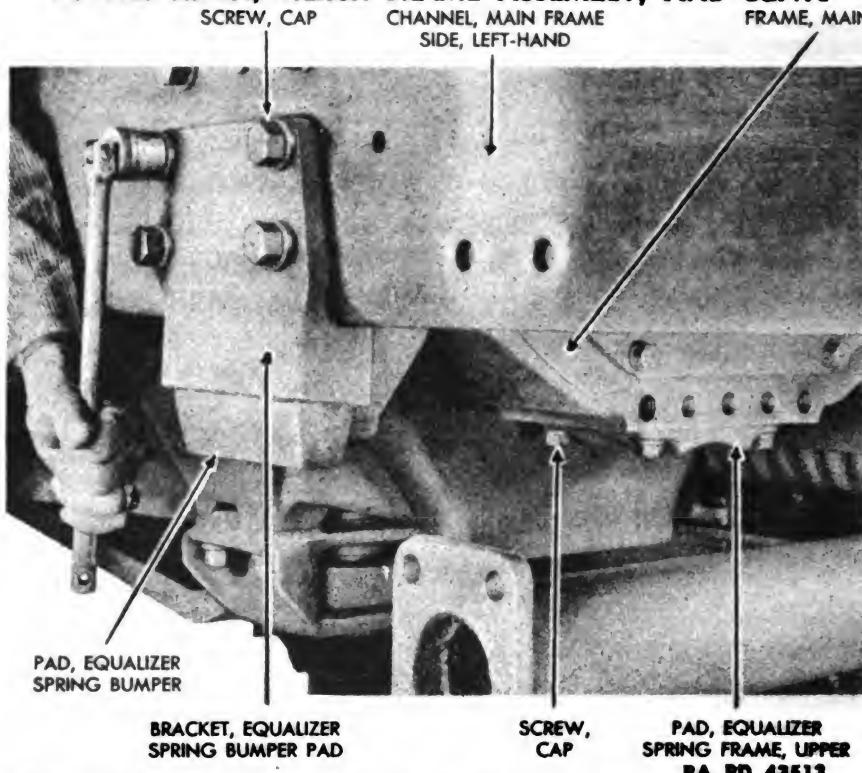

Figure 136 – Equalizer Spring Bumper Pad Bracket Removal
(5) REMOVE EQUALIZER SPRING BUMPER PAD BRACKETS (fig. 136).**SCREWDRIVER****WRENCH, socket, 1½-in.**
(6) REMOVE UPPER EQUALIZER SPRING FRAME PAD (fig. 136).
(1) INSTALL UPPER EQUALIZER SPRING FRAME PAD (fig. 136).
(2) INSTALL EQUALIZER SPRING BUMPER PAD BRACKETS (fig. 136).